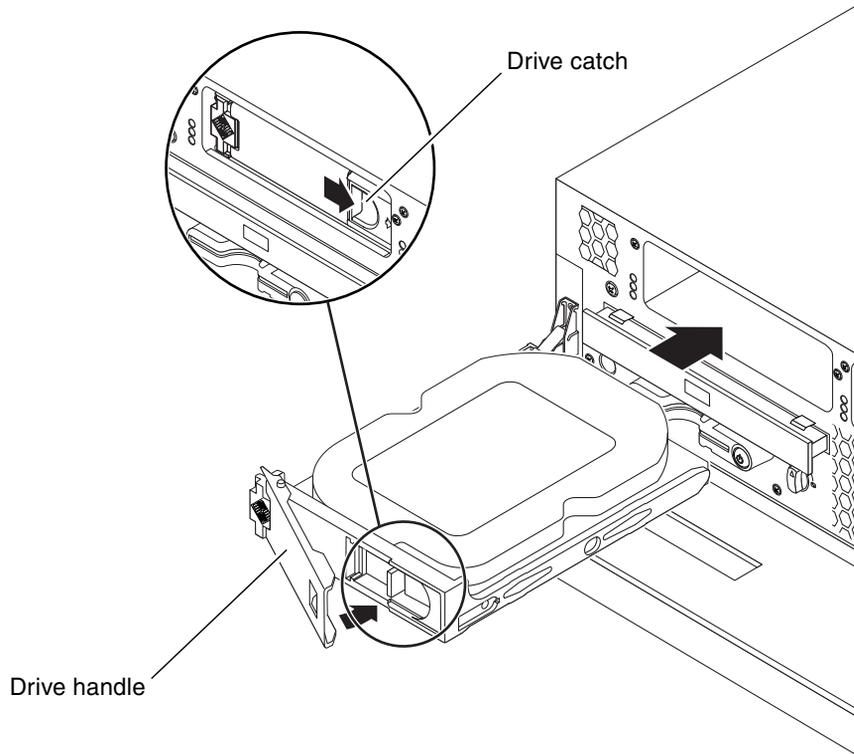

FIGURE 3-5 Removing and Installing a Hard Drive
9. Slide the catch at the front of the hard drive to the right (FIGURE 3-5).
1. Slide the catch on the front of the hard drive to the right (FIGURE 3-5).